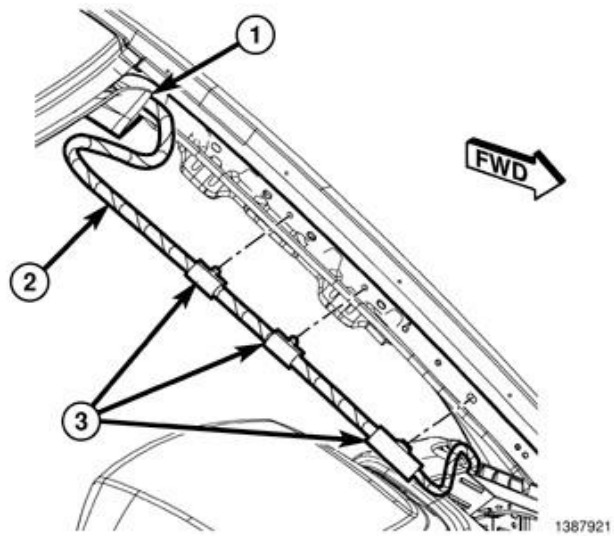

Figure 10 – Headliner Harness
15. As necessary, release the headliner wiring harness clips (3) from the A-pillar to allow enough wiring harness slack for lowering the headliner (Figure 10).
39. Reattach any headliner wiring harness clips (3) removed from the A-pillar to allow slack while lowering headliner (Figure 10).